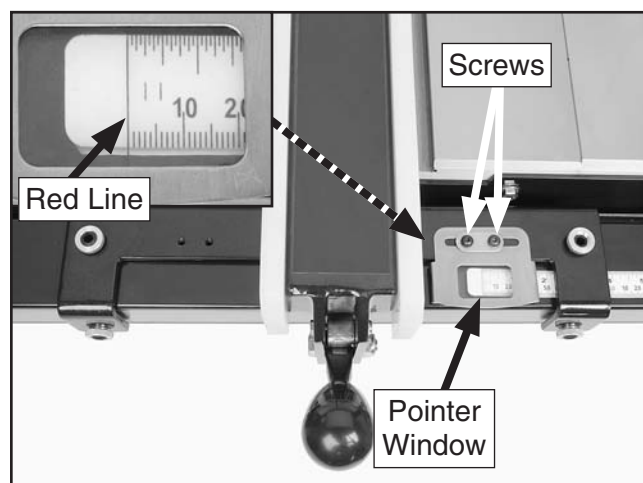

Figure 32. Aligning rail tape with scale pointer.
The pointer window may come pre-installed on the left side of the fence. However, we recommend loosening the mounting screws on the window and reinstalling it on the right side of the fence (see **Figure 32**) so workpieces will not cover the pointer window when preparing to cut.
2. Place the front rail tape scale on the fence tube, making sure it is parallel with the tube and that the "0" end is directly under the red line on the pointer window, as shown in **Figure 32**.